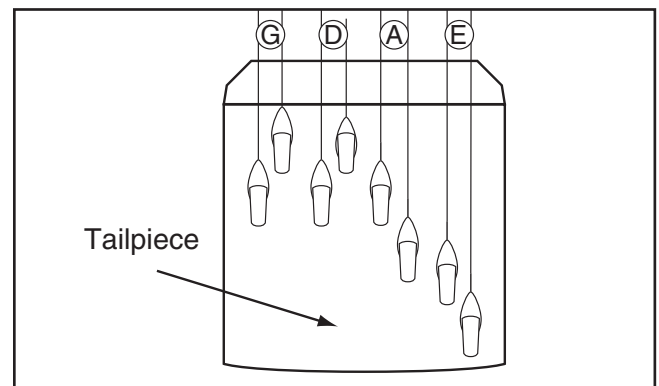

Figure 39. String placement.
3. Place the strings over the hooks on the tailpiece as shown in **Figure 39**. Work from the thinnest string (E string-treble) to the thickest (G string-bass).